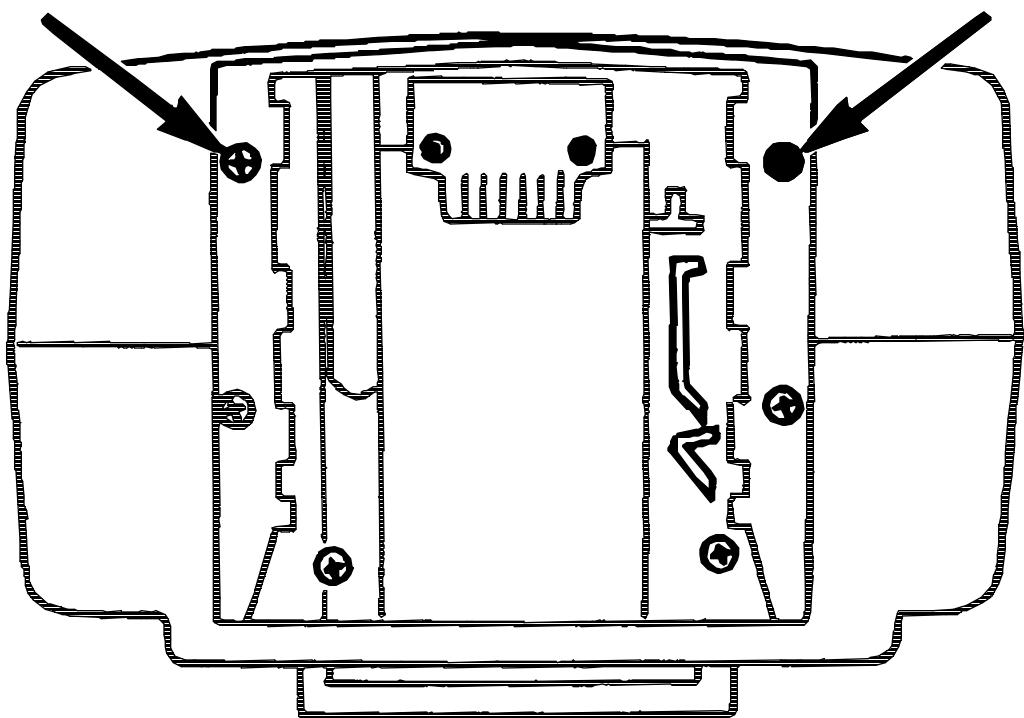

Figure 4-4 Loosening Base Plate
1.7 Loosen (do not remove) two screws on Base Plate nearest connector. (Fig. 4-4)